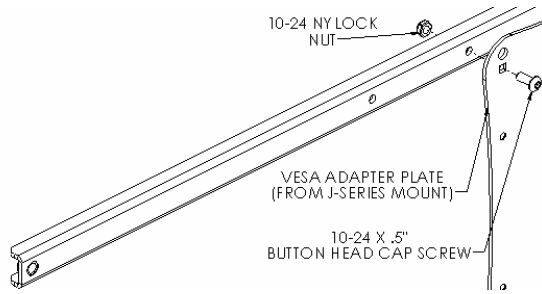
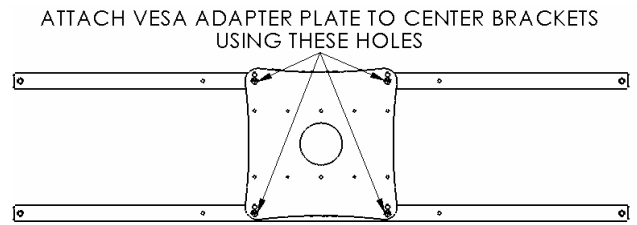

Figure 4
Figure 5
3. **J-Series VESA Interface Installation:** Using the 10-24 x .5" button head cap screws along with the 10-24 Nylock nuts, attach VESA interface from J-Series mount to center brackets (see Figure 4 & Figure 5).